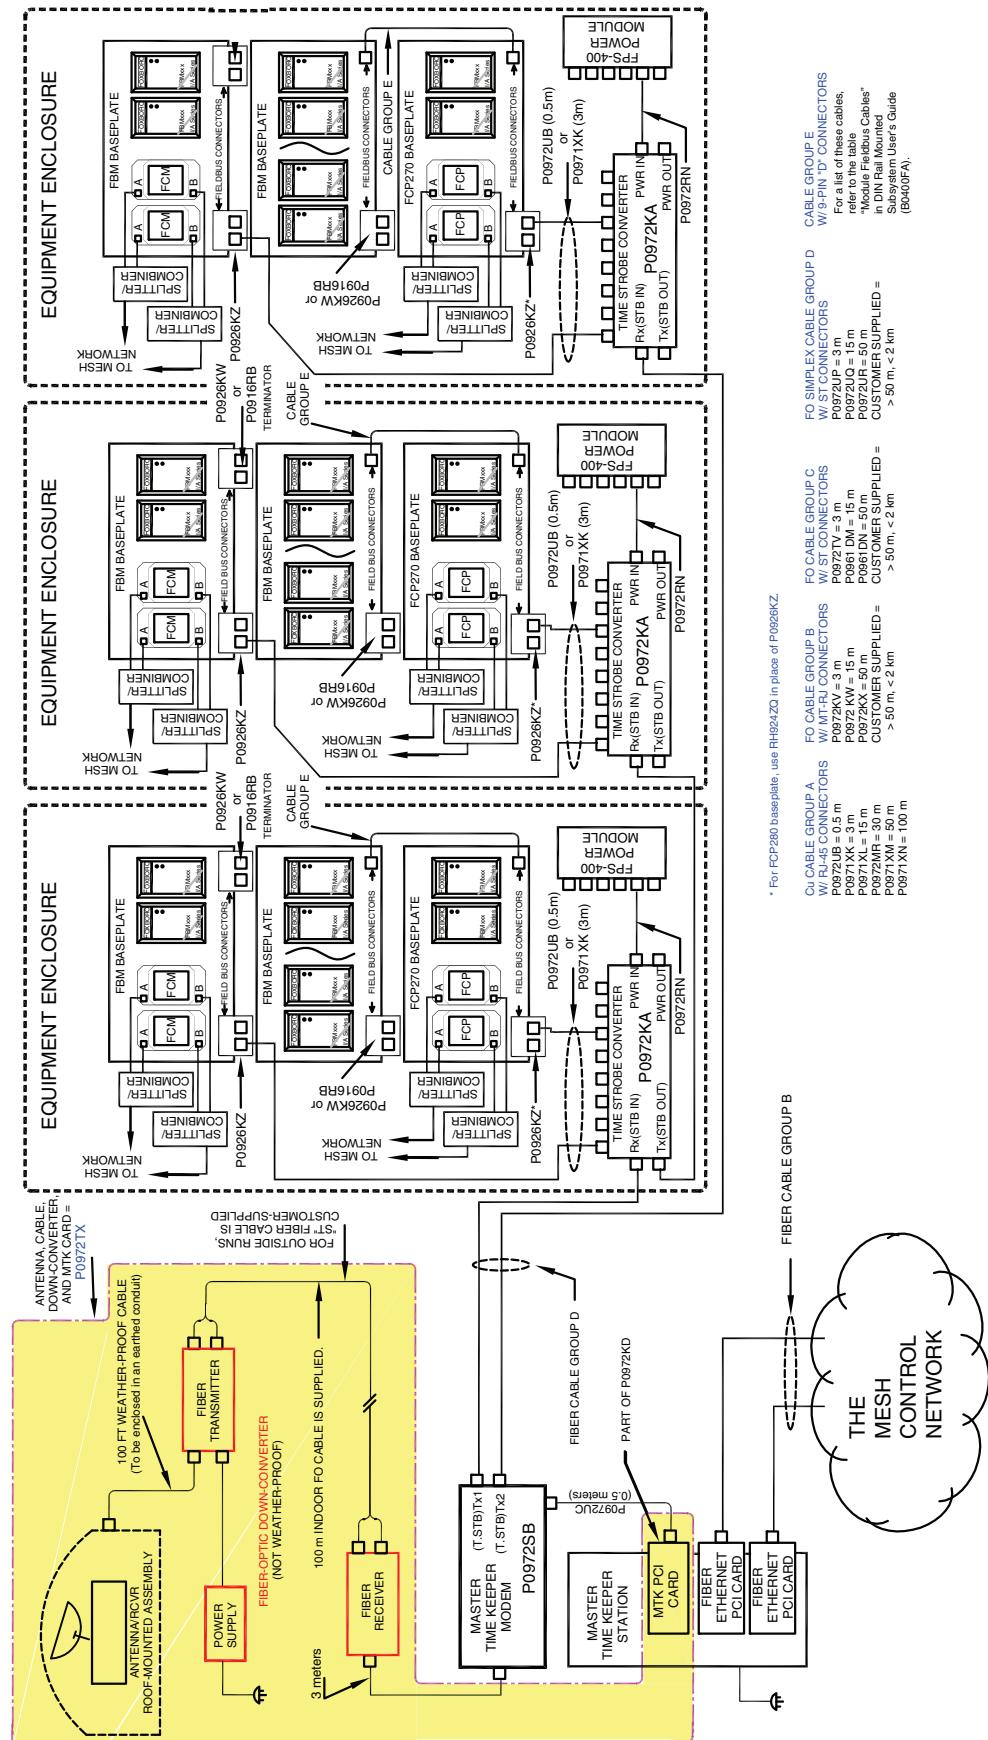

Figure A-2. FCP270 with Fiber Antenna Connection, Non-redundant Cabling
- ◆ Extended Time Strobe Network - FCP270 with Fiber Antenna Connection, Non-redundant Cabling (Figure A-2)